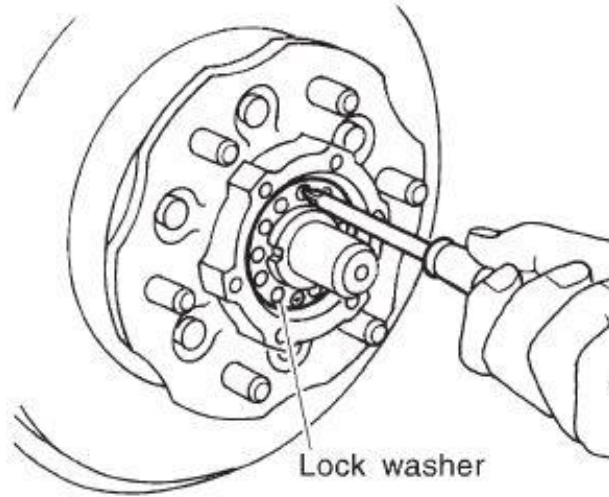

Fig 20
- For **automatic hubs**: Once the wheel bearing preload is set, secure the wheel bearing adjusting nut with the lock washer and screw(s). Refer to fig 20.